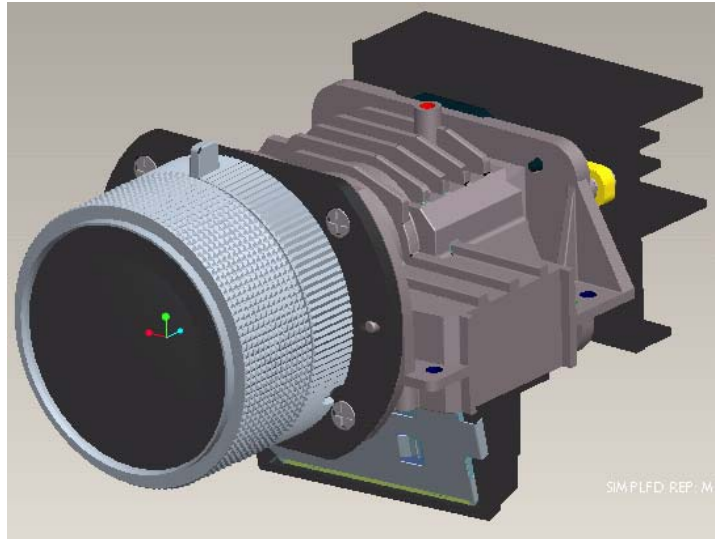

Figure8-3
- 3 Insert “Ring Focus” third(Fig 8-3) 。